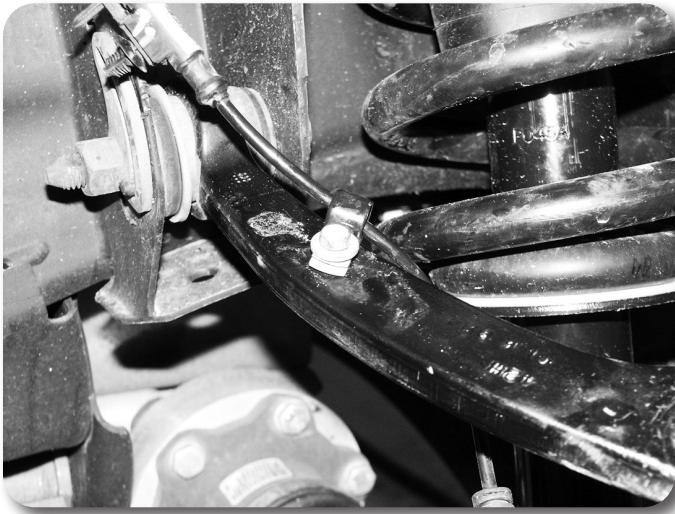

Figure 37
75. Attach the ABS line to the upper control arm with the original brake line mounting bolt and provided wire clamp Figure 37.